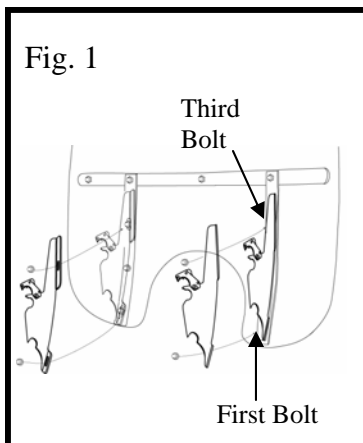

Fig. 1
2. Install the two mounting plates onto the windshield, using the bottom and third bolt up. Leave the nylon washers off. The small tab goes to the bottom, big one at the top. *Tabs point in towards the Headlight.* (see fig. 1)